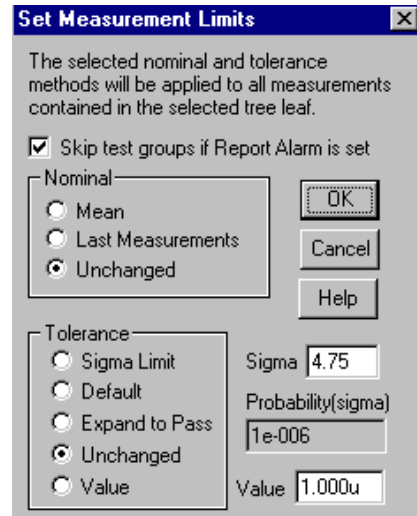

Figure 10, the Set Measurements dialog allows you to set tolerances for a group of measurements using several powerful methods.
2.1) When the Monte Carlo simulation finishes, a nominal reference simulation is run. The results, shown in figure 9, are used to set the nominal measurement values. You may check the default tolerances and make any additions or changes before continuing or we can use the "Set Limits" dialog (figure 10) to setup the measurement tolerances. Tolerances shown in the report dialogs use 3 sigma values.